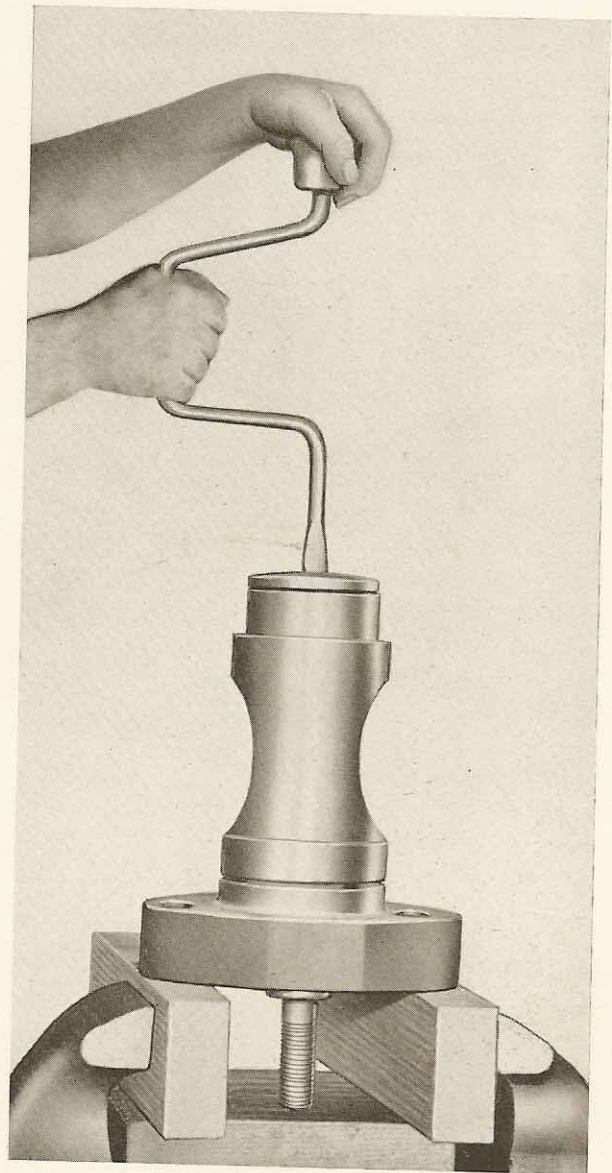

FIGURE 11-15
9. GRINDING VALVES: The purpose of valve grinding is to obtain a gas or air tight fit between the valve face and the seat. Stand the valve cage on end and smear the valve face with coarse valve grinding compound. There are many valve grinding devices available but the most simple one can be made from an ordinary carpenter's brace and a wide screw driver bit. Use them as shown in Figure 11-15 and rotate the valve back and forth about 180 degrees. After 20 or 30 such movements, lift the valve off its seat to allow the grinding compound to reform on the grinding areas. Repeat these operations as often as is required to obtain a reasonably clear face and seat. Add more grinding compound when necessary.